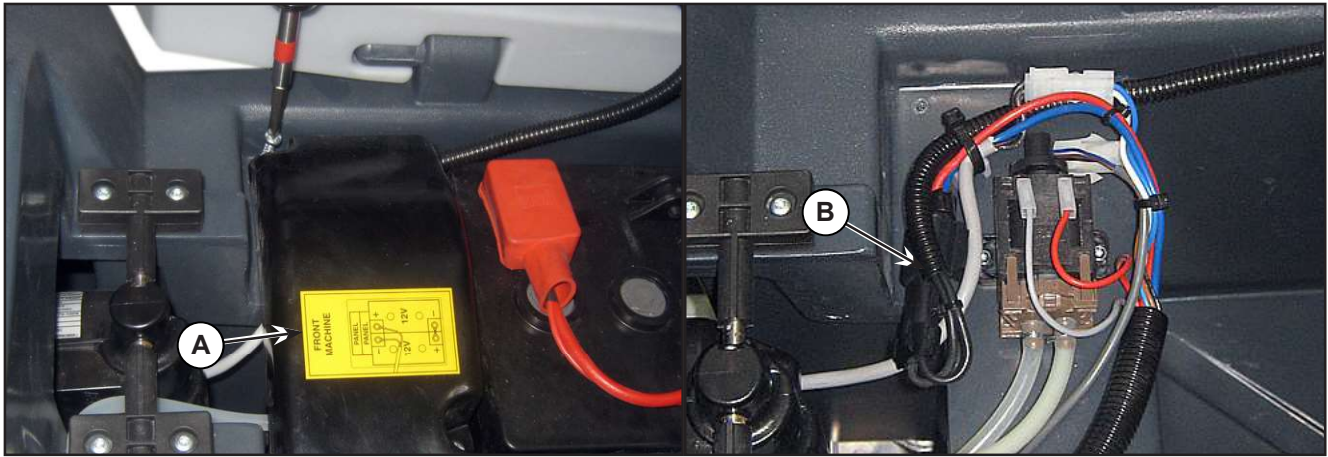

Figure 6:
4. Remove the cover (A) (Figure 6), then disconnect the connector (B).